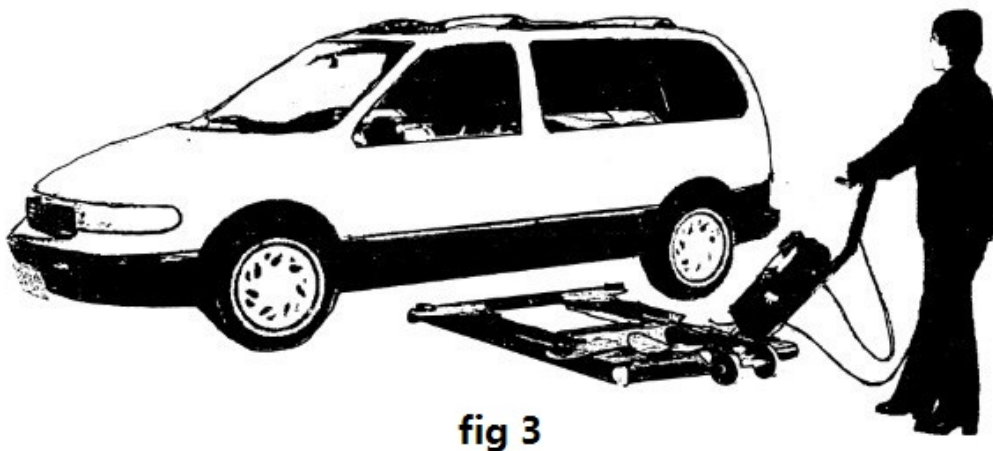

fig 3
2. Push the lift to suitable position. (as shown on fig 3)